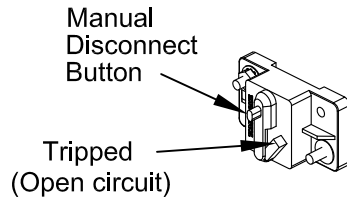

Figure 2: Circuit breaker.
2. Lower the liftgate to the ground (liftgate now shown). To avoid a risk of a 12 volt electrical short, disconnect the #4 power cable from the positive side of the battery or manually trip the circuit breaker (Figure 2).